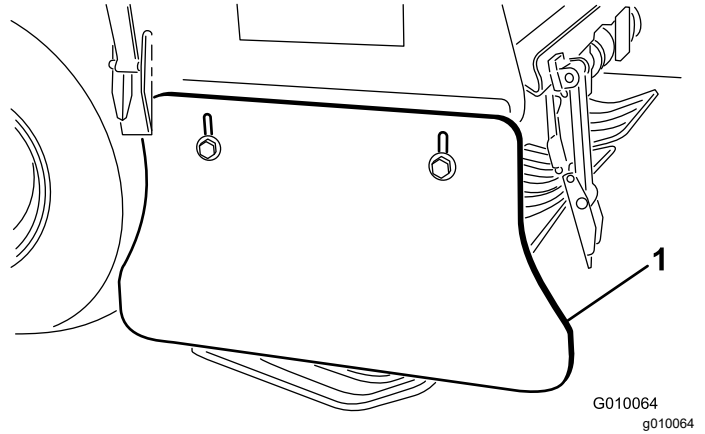

Figure 172
2. Loosen the capscrews and flange locknuts that secure the side shield to coring-head frame (Figure 172).